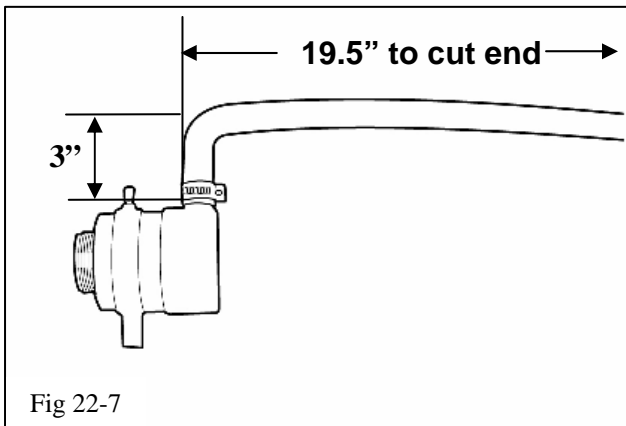

Fig 22-7
- (h) Starting with a 4" X 36" section of molded hose (B2), trim 1" off the short leg and 16.5" off the longer leg. The long leg will measure 19.5" Attach the short leg to the reservoir (D2) as shown with a #10 hose clamp (A18) (Figs. 22-7).